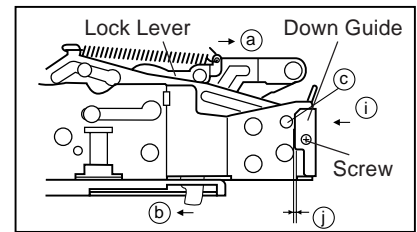

Figure 5. Lock lever section
- (1) Set the unit to the EJECT mode, and let the housing stand upright. Or set the unit to the STANDBY mode, press the lock lever in the arrow direction, and let the housing stand upright. (See Fig. 5: in the direction (a) or (b) (When pushing in the direction (a), slightly lift the housing by hand to release the lock lever.)
- (2) Remove the four screws (2) and take out the down guide (3).
- (3) Slide the two link support shafts (c) and the two roller shafts (d) to the round openings (g) on their respective slide chassis slits (two at (e) and two at (f)).
- (4) Deflect the roller shafts (d) a little inward to get them out of the round openings (g) on the slide chassis. (Be careful not to deform the inner links.)